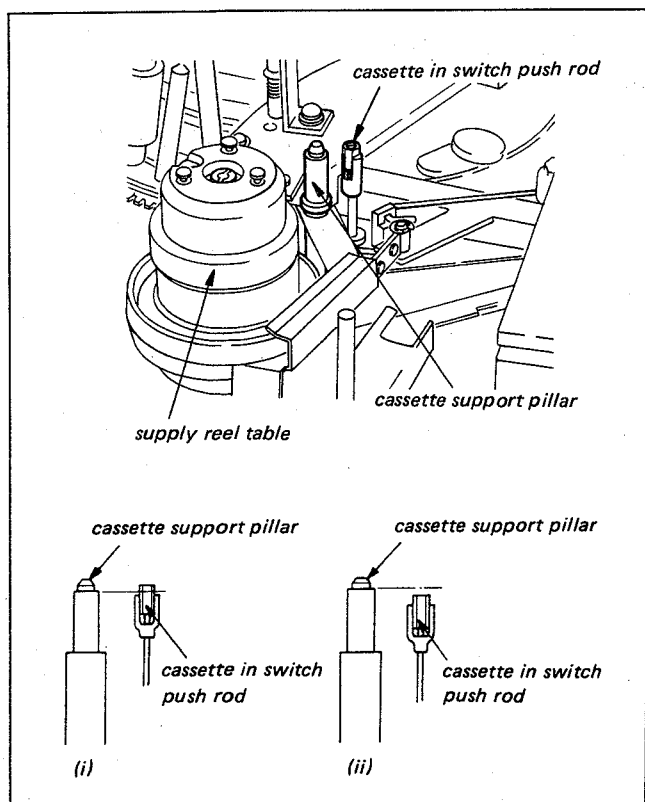

Fig. 4-31. Cassette-in switch push rod height adj. (EJECT mode, power OFF)
3. Press down the top of the Push Rod as far as it will go, with finger. Check to see that the top of the Push Rod is positioning lower than the Support Pillar as shown in Fig. 4-31 (ii). If adjustment is required, proceed to step 4 for adjustment to meet both step 2 and step 3 requirements.
5. If step 4 adjustment cannot be properly performed (occurring due to difference in ON point in respective micro switch), bend the Actuator of micro switch as shown in Fig. 4-31 slightly, and re-adjust in accordance with step 4.